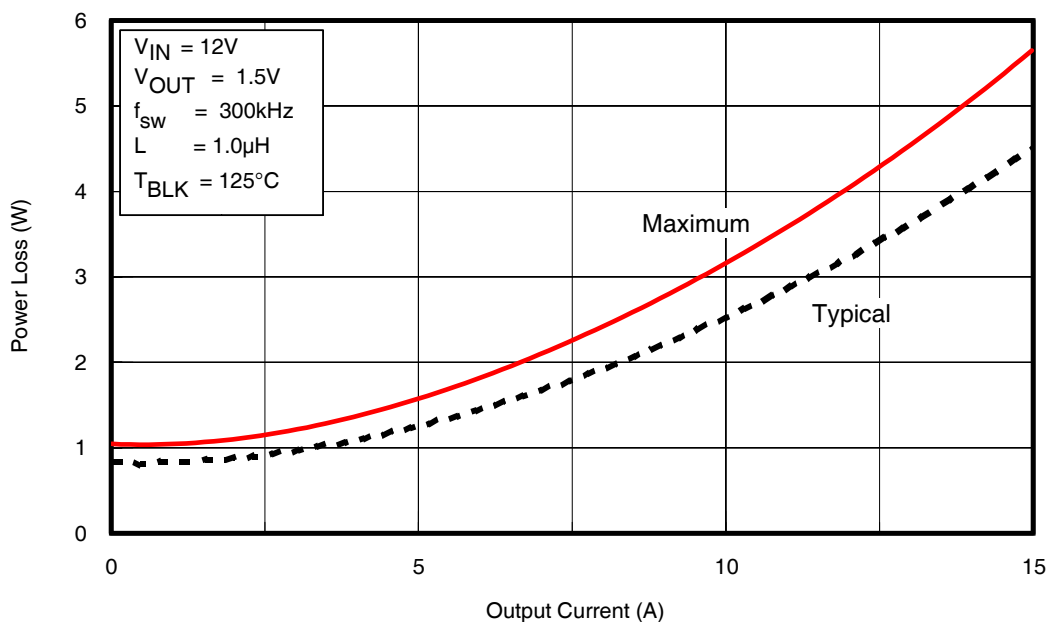
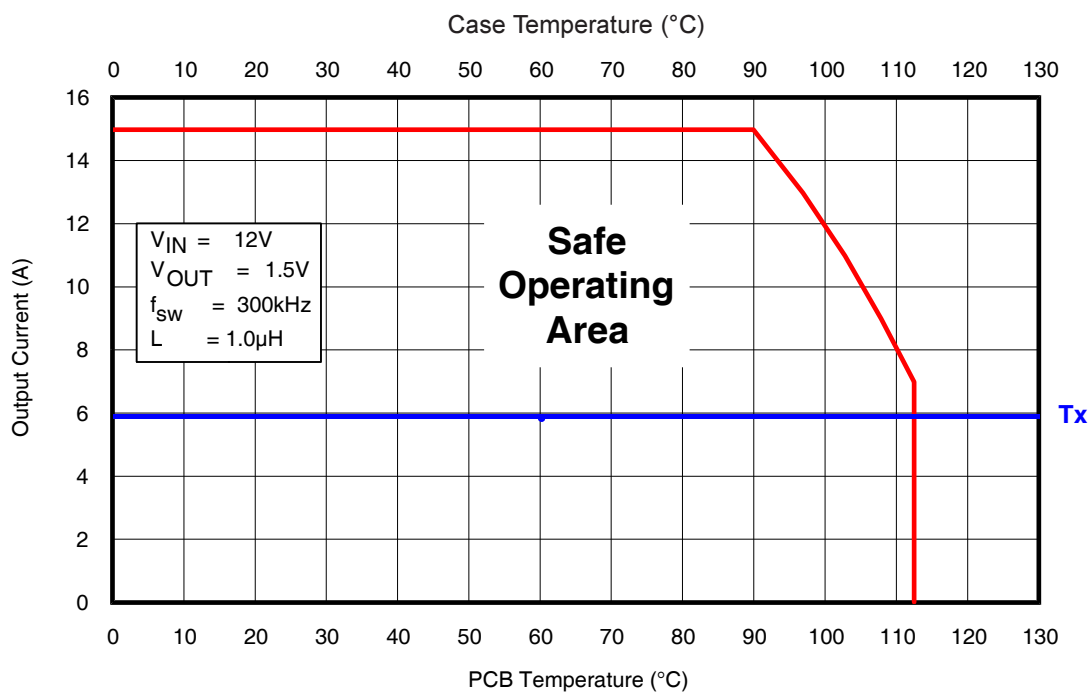
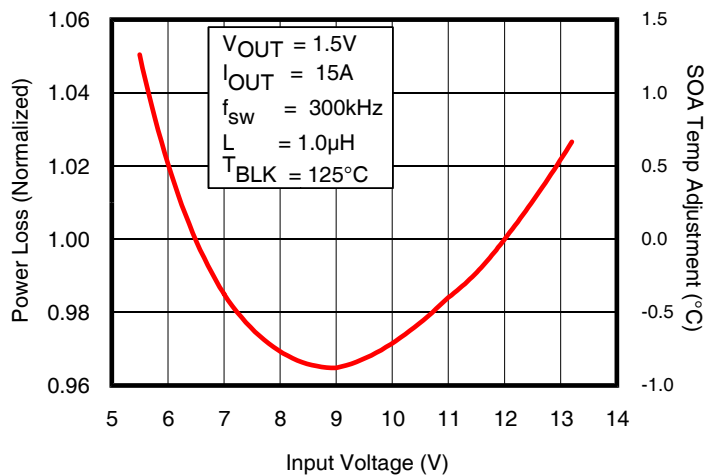

Fig. 2: Power Loss vs. Current
Fig. 3: Safe Operating Area (SOA) vs. T_{PCB} & T_{CASE}
Fig. 4: Normalized Power Loss vs. V_{IN}
To make adjustments to the power loss curves in Fig. 2, multiply the normalized value obtained from the curves in Figs. 4, 5, 6 or 7 by the value indicated on the power loss curve in Fig. 2. Then if multiple adjustments are required, multiply all of the normalized values together, then multiply that product by the value indicated on the power loss curve in Fig. 2. The resulting product is the final power loss based on all factors. See example no. 1.
To make adjustments to the SOA curve in Fig. 3, determine your maximum PCB Temp & Case Temp at the maximum operating current of each iP1203PbF. Then, add the correction temperature from the normalized curves in Figs. 4, 5, 6 or 7 to the T_X axis intercept (see procedure no. 2 above) in Fig. 3. When multiple adjustments are required, add all of the temperatures together, then add the sum to the T_X axis intercept in Fig. 3. See example no. 2.
- (Fig. 2) Maximum power loss = 4.1W
- (Fig. 4) Normalized power loss for input voltage ≈ 1.025
Output1 (Fig. 4) Normalized SOA Temperature for input voltage $\approx +0.7^{\circ}\text{C}$